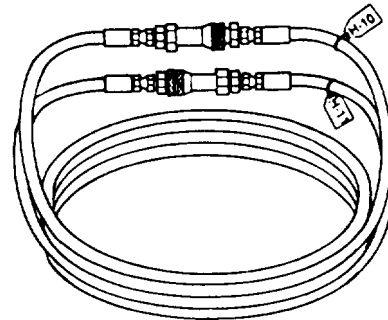

Figure 5-14. *Extension Hoses*
- c. Roll up hoses H-10 and H-11 and connect ends together (Figure 5-14). Return them to tool box.